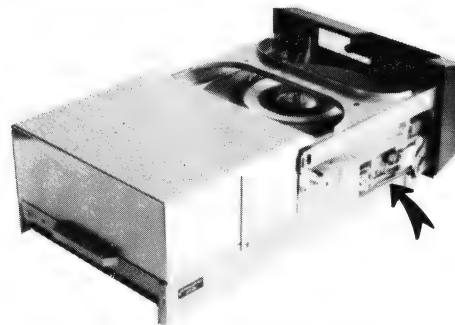

Figure 4.2.2a
4.2.2 DOOR SAFETY LATCH ASSEMBLY REPLACEMENT See location Figure 4.2.2a